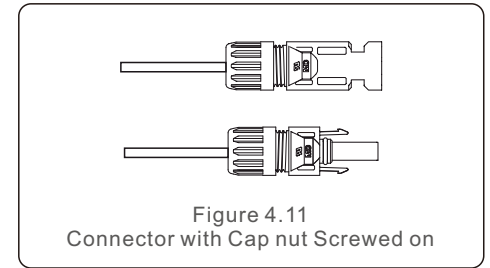

Figure 4.11
4. Insert the contact pin to the top part of the connector and screw up the cap nut to the top part of the connector .(see figure 4.11).